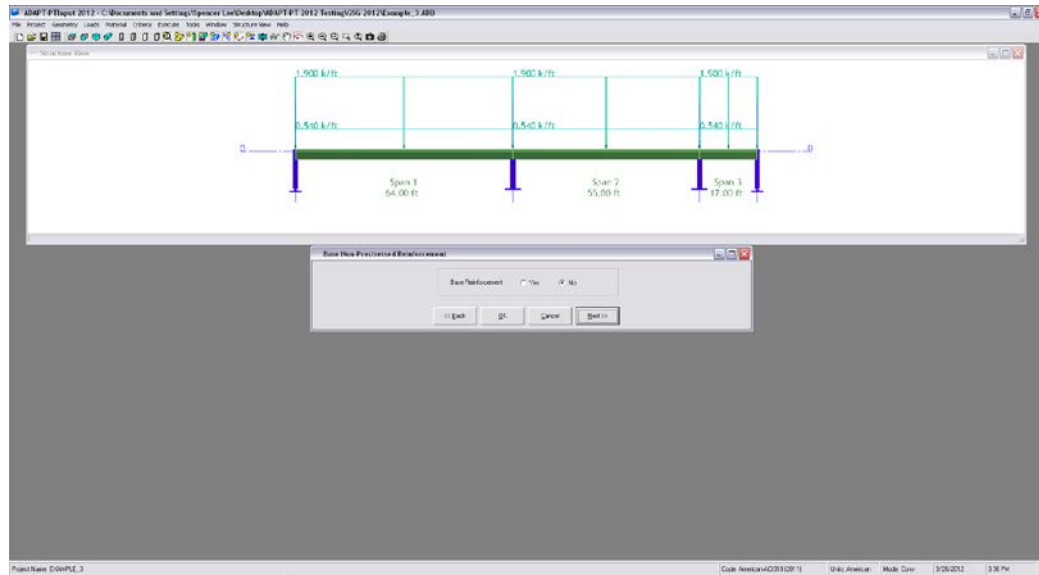

FIGURE 4.2-12
4.2.4.4 Edit Base Reinforcement (Fig. 4.2-12)